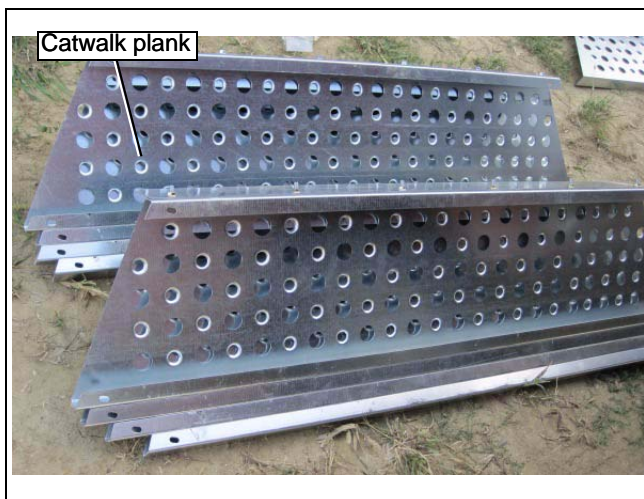
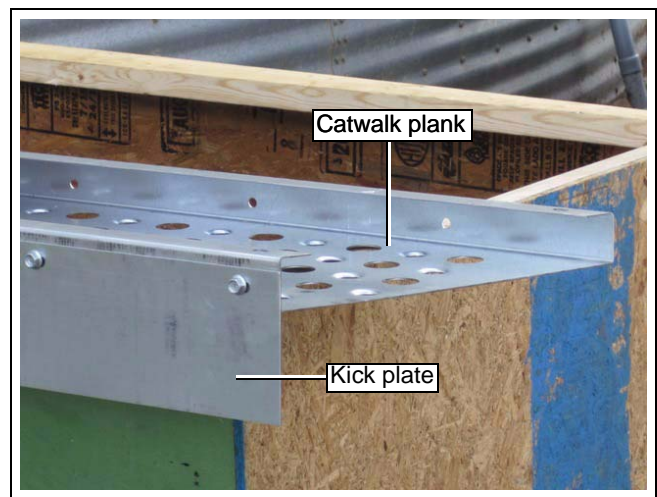

Figure 8M Catwalk Planks
Figure 8N Kick plate attached to catwalk plank.
3. Tighten fully with power impact. (See Figure 8M and Figure 8N.)